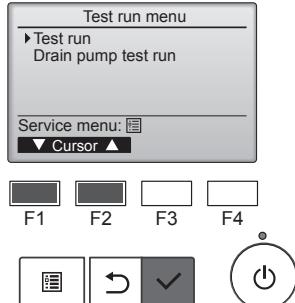

Fig. 7-2
- Select "Test run" from the Test run menu, and press the [SELECT] button. (Fig. 7-2)